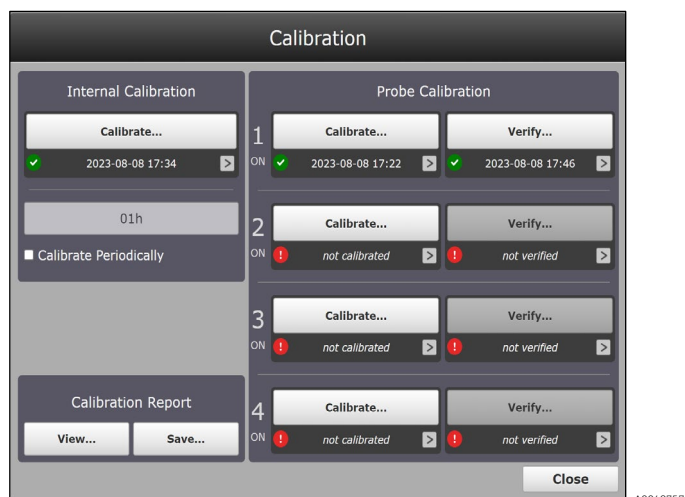

Figure 24. Calibration window for a Raman Rxn four-channel analyzer
- **Four-channel analyzer**, see Figure 24.